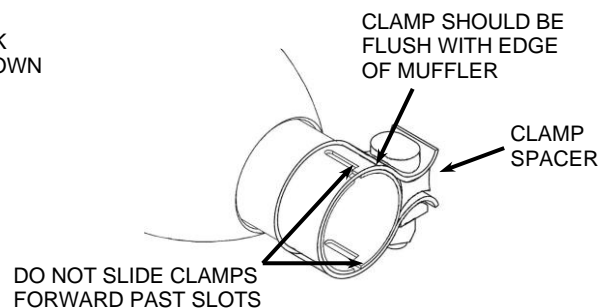

FIGURE 9
26. Adjust the mufflers fore and aft to align the front of the mufflers with the rear of the heatshields. Make sure there is a small gap between the front of the mufflers and the heatshields. Rotate the mufflers so they are level with the ground and then tighten the muffler mounting bolts and the clamps. (NOTE: The clamps should be flush with the end of the muffler inlet when tightened. If the clamps are slid past the slots on the muffler inlet the clamps will not tighten properly. Also, make sure the clamp spacer is not over the slots. The slots need to be covered by the clamp band so that it seals the slots properly. Rotate the clamp if necessary). See **FIGURE 9**.